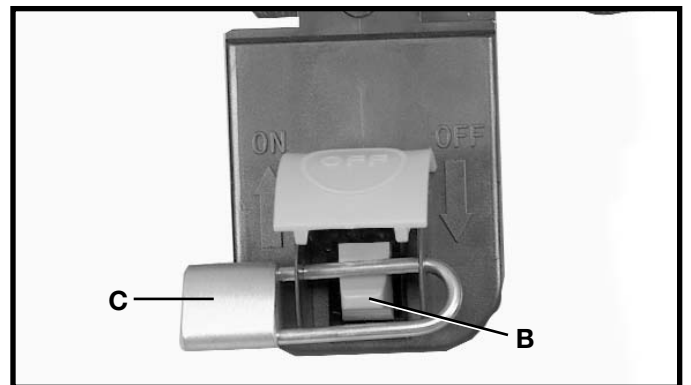

Fig. 96
**IMPORTANT:** When the unit is not in use, the switch (B) should be locked in the “OFF” position using a padlock (C) Fig. 96, (with 3/16" diameter shackle) through the two holes in the switch plate, as shown in Fig. 96. **NOTE:** Padlock shown is available as accessory Catalog No. 50-325.